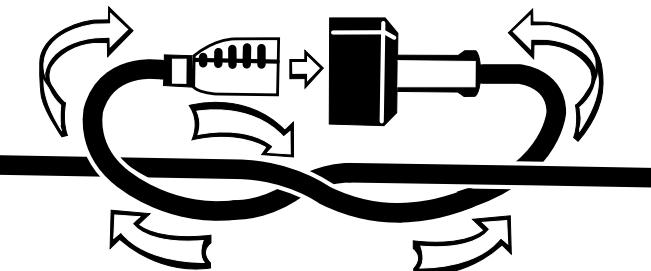

Fig. 4
*See Figure 4.*
It is possible to tie the extension cord and power cord in a knot to prevent them from becoming disconnected during use. Make the knot as shown in figure 4, then connect the plug end of the power cord into the receptacle end of the extension cord. This method can also be used to tie two extension cords together.